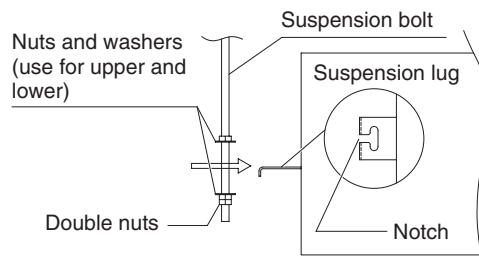

Fig. 3-10
- (3) Thread the 3 hexagonal nuts and 2 washers (field supply) onto each of the 4 suspension bolts as shown in Fig. 3-10 and 3-11. Use 1 nut and 1 washer for the upper part, and 2 nuts and 1 washer for the lower part, so that the unit will not fall off the suspension lugs.